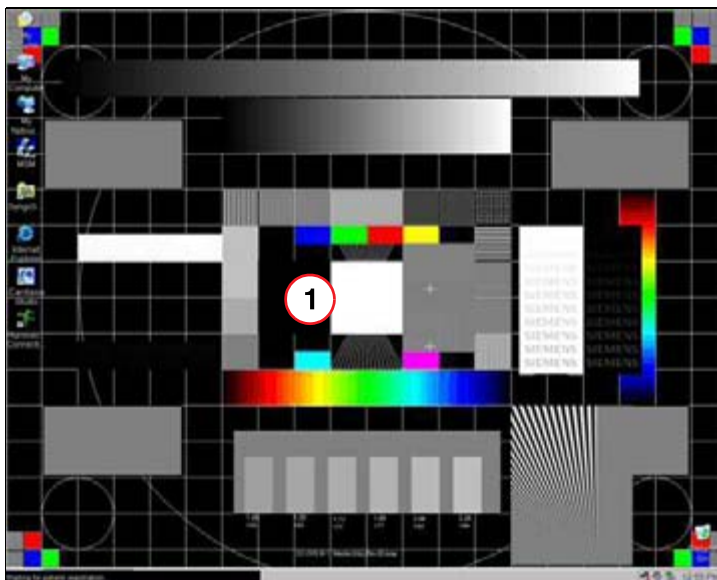

Fig. 63: Test image Master 2All Rev20
- The Siemens test image Master2ALLRev20.bmp (Fig. 63 / p. 82) is called up as the desktop background.
- The **white and black test fields** in the center of the test image are used to **measure** and **adjust** the image (marked in (Fig. 63 / p. 82)).